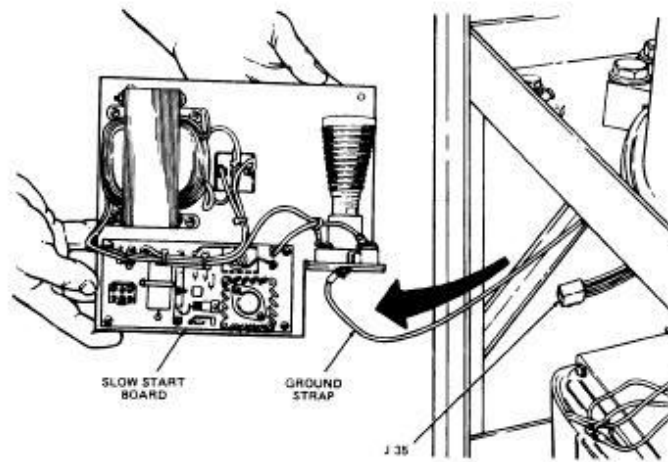

Figure 11-27. Remove Slow Start Board and Assembly
4. Remove the slow start assembly from centrifuge. Figure 11-27, as follows:
5. Remove Slow Start Board from assembly. Figure 11-27, as follows: